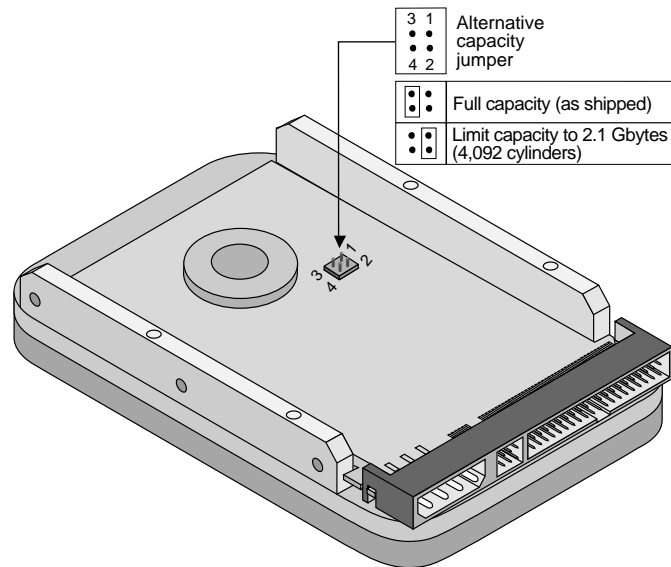

Figure 6. Alternate capacity jumper
2. Move the jumper on the alternate-capacity jumper, as shown in Figure 6. This causes the drive to appear to your BIOS as having a capacity of 2.1-Gbyte.